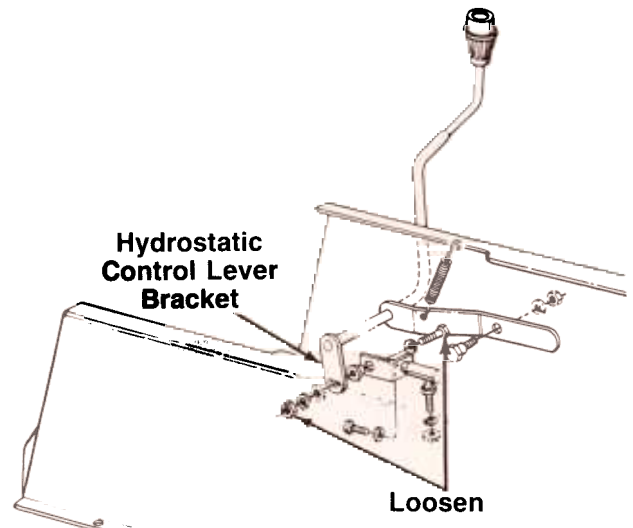

FIGURE 13.
1. Remove the transmission panel by removing the parking brake knob and truss machine screws. Loosen the bolt and nut on the bracket on the hydrostatic control lever. See figure 13.